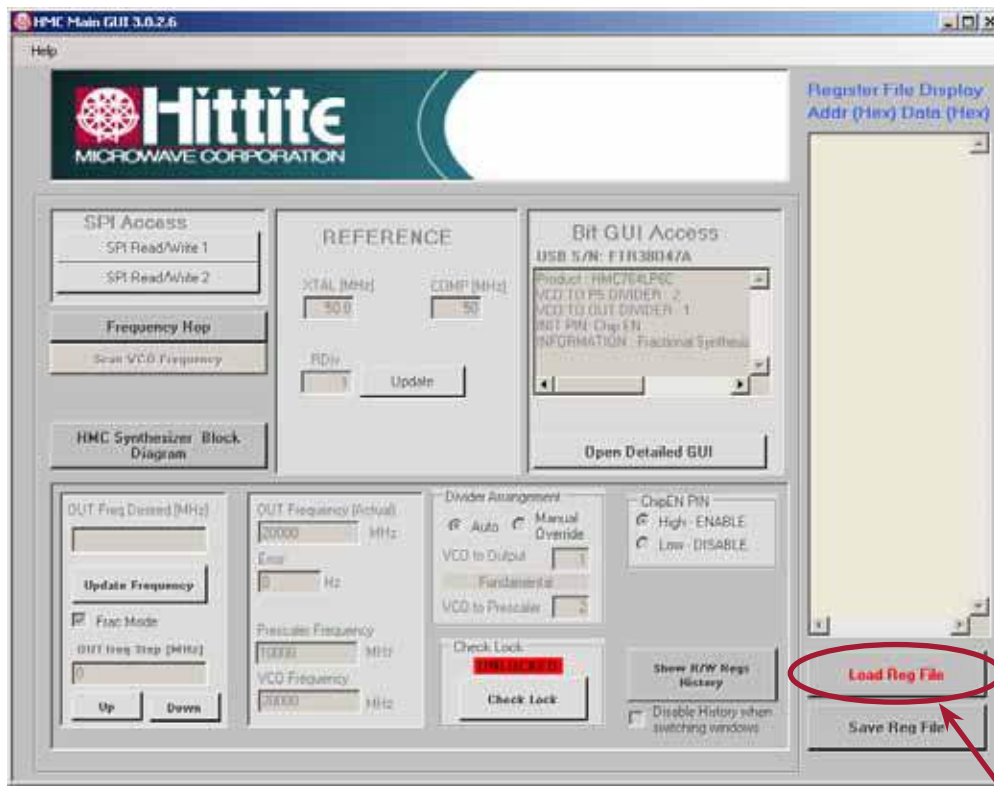

Figure 10. Main Control Window
**Step 6.** Click “Done” button, the main control window pops out as Figure 10 shown.